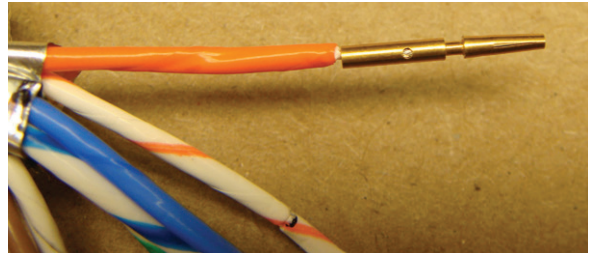

Figure 66: Sliding the socket contact
15. Slide the socket contact from the 980-2002-551 connector kit onto the stripped end of the primary wire (Figure 66).